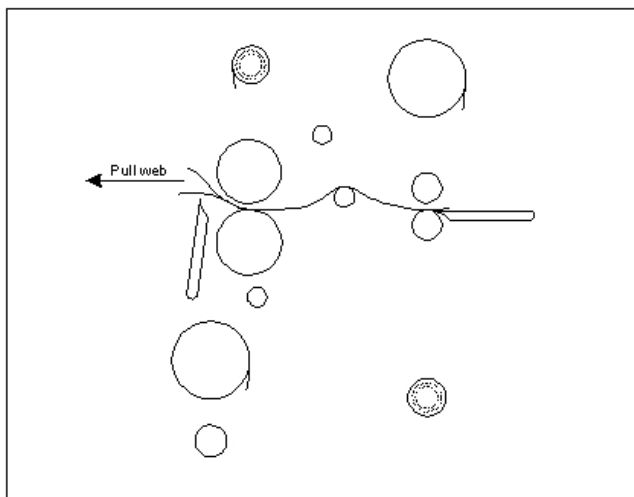

Fig 33
6. Carefully grab hold of the web (top and bottom film), from the front operating position and pull towards you (Figure 33).